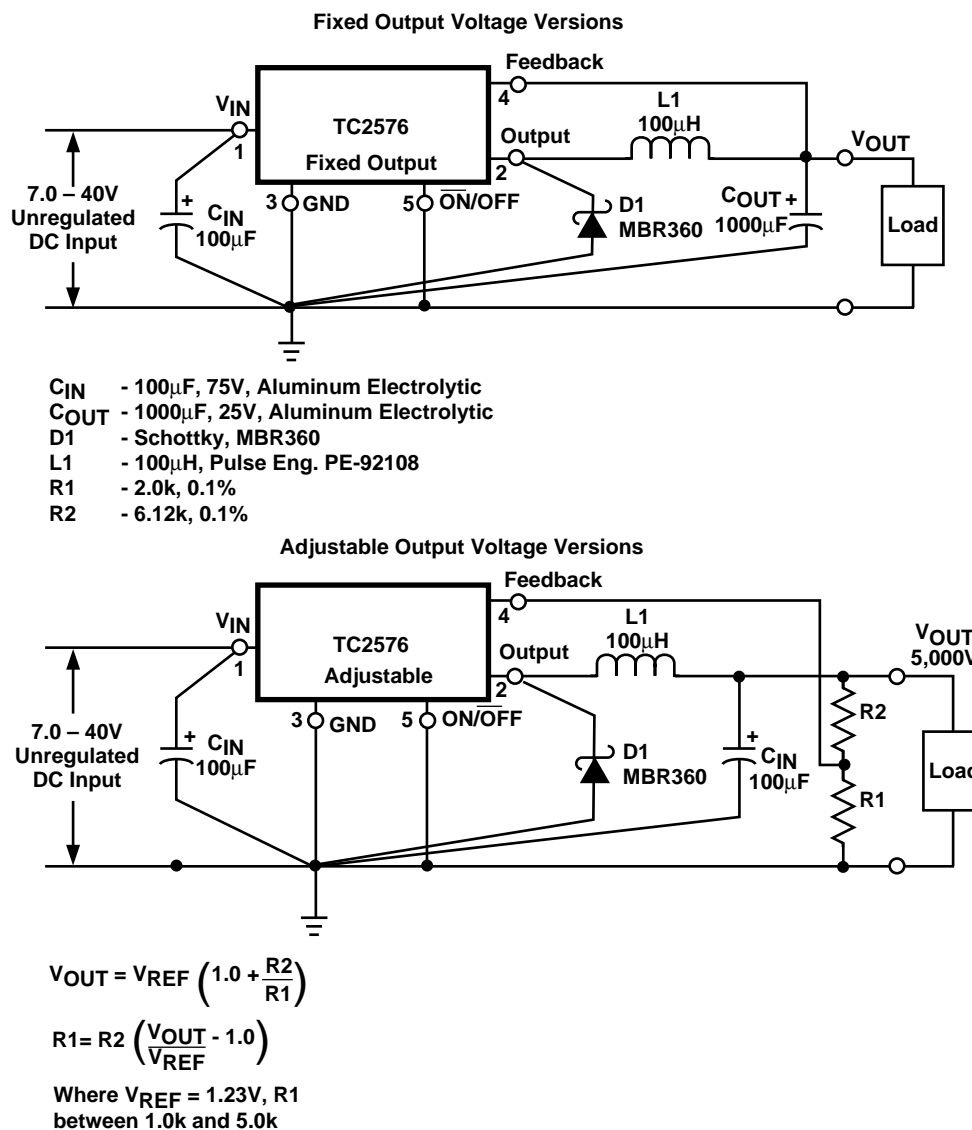

Figure 2. Typical Test Circuit
TC2576-3.3 [(Note 1) Test Circuit Figure 2]
TC2576-5 [(Note 1) Test Circuit Figure 2]
TC2576-12 [(Note 1) Test Circuit Figure 2]
TC2576-Adjustable Version [(Note 1) Test Circuit Figure 2]
- NOTES:** 1. External components such as the catch diode, inductor, input and output capacitors can affect the switching regulator system performance. When the TC2576 is used as shown in the Figure 2 test circuit, the system performance will be as shown in the system parameters section of the Electrical Characteristics.
As in any switching regulator, the layout of the printed circuit board is very important. Rapidly switching currents associated with wiring inductance, stray capacitance and parasitic inductance of the printed circuit board traces can generate voltage transients which can generate electromagnetic interferences (EMI) and affect the desired operation. As indicated in the Figure 2, to minimize inductance and ground loops, the length of the leads indicated by heavy lines should be kept as short as possible.
1. Programming Output Voltage To select the right programming resistor R1 and R2 value (see Figure 2) use the following formula:  $V_{OUT} = V_{REF} \left( 1.0 + \frac{R2}{R1} \right) \text{ where } V_{REF} = 1.23V$  Resistor R1 can be between 1.0k $\Omega$ and 5.0k $\Omega$ . (For best temperature coefficient and stability with time, use 1% metal film resistors).  $R2 = R1 \left( \frac{V_{OUT}}{V_{REF}} - 1.0 \right)$	1. Programming Output Voltage (selecting R1 and R2) Select R1 and R2 $V_{OUT} = 1.23 \left( 1.0 + \frac{R2}{R1} \right) \text{ Select } R1 = 1.8k\Omega$  $R2 = R1 \left( \frac{V_{OUT}}{V_{REF}} - 1.0 \right) = 1.08k \left( \frac{8.0V}{1.23V} - 1.0 \right)$  $R1 = 9.91k\Omega$ , choose a 9.88k $\Omega$ metal film resistor.